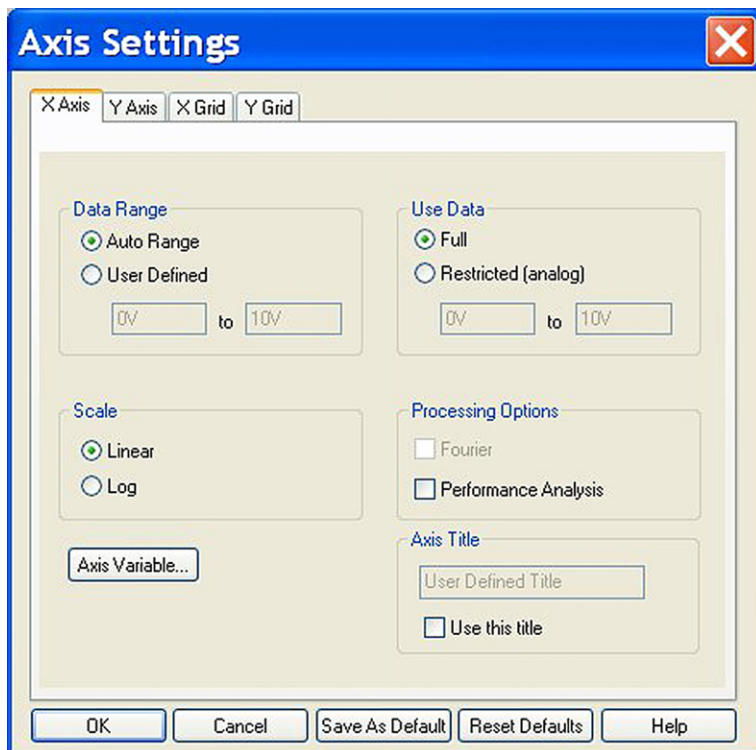

FIGURE 15.14
3. We need to display the current through the diode versus the voltage across the diode. Select **Plot > Axis Settings > X Axis**. Select **Axis Variable...** and select V1(D1) (Figure 15.14). Click on OK.